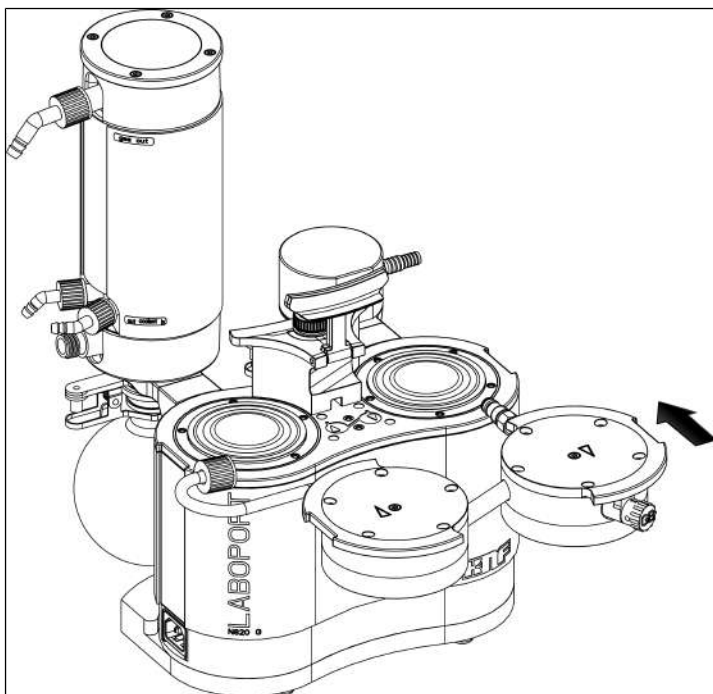

Fig.16: Fit pump head
3. Place the head plate (3) on the intermediate plate (6) in line with the locating pin (5).
4. Place the pressure plate (2) on the head plate (3) according to the pencil line.
5. Tighten the internal head screw (1) in the center of the pressure plate (tightening torque: 1 Nm).
7. Place the two pump heads (consisting of head plate (3), intermediate plate (6) with valve plates/seals (4) and pressure plate (2)) together with the connection tube on the pump housing according to the pencil line (see Fig. 16).